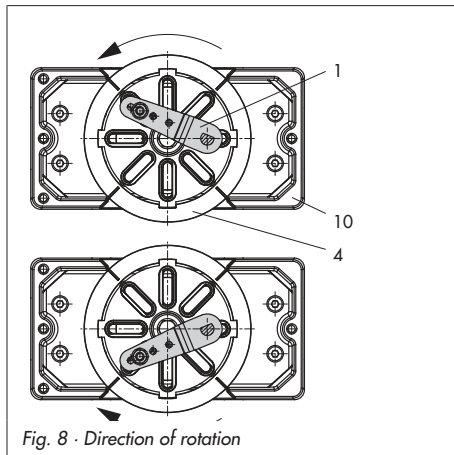

Fig. 8 · Direction of rotation
8. Place positioner on housing (10) and screw it tight. Considering the actuator's direction of rotation, align lever (1) so that it engages in the correct slot of the coupling wheel with its follower pin (Fig. 8).